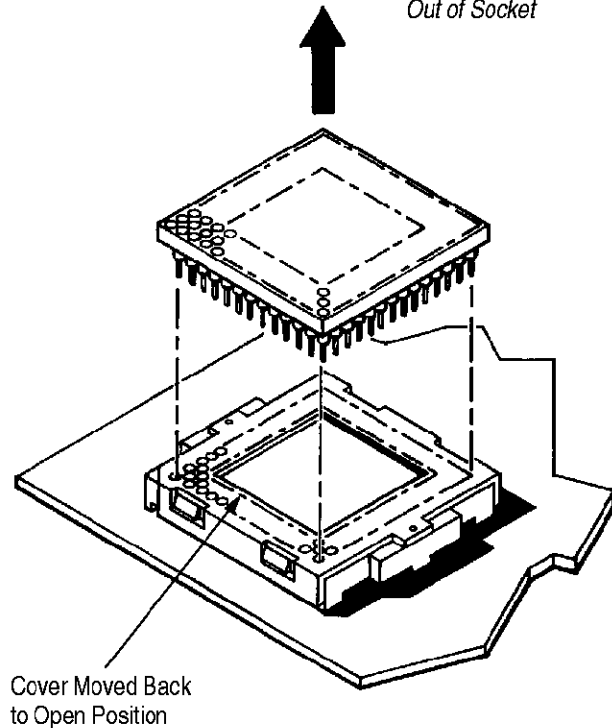

Figure 5
3. Lift PGA device straight up and out of socket as shown in Figure 5.